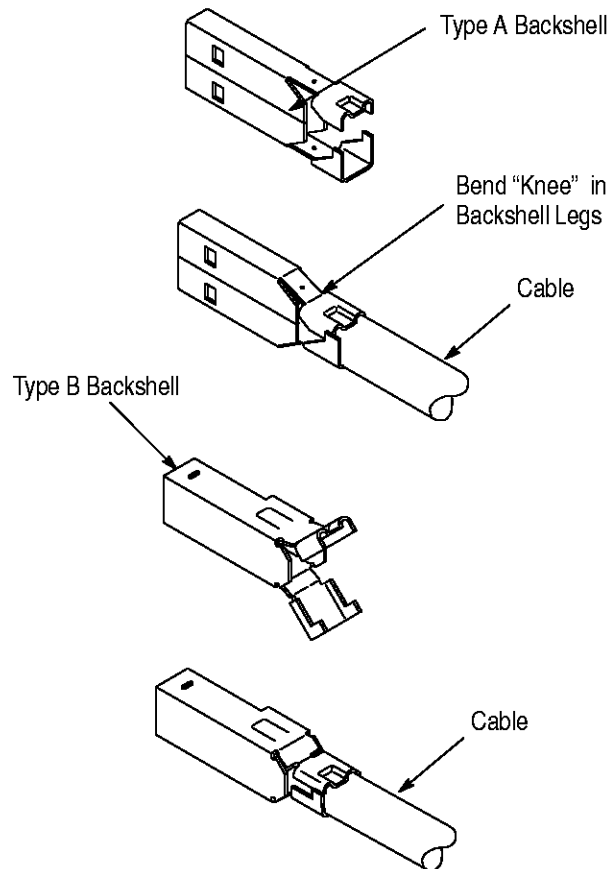

Figure 5
This instruction sheet covers the setup, operation, and maintenance of AMP\* Backshell Crimper Assembly 1214695-1. The crimper assembly is used in conjunction with Manual Arbor Frame Assembly 91085-2 or Manual Arbor Frame Assembly 58024-1 to crimp AMP Universal Serial Bus (USB) Type A and B backshells (Figure 5) onto cable with USB connectors.
4. Place backshell on the end of the cable and bend the legs of backshell around the cable. See Figure 5.
*It will be necessary to bend a "knee" in the legs of Type A backshells. Refer to Figure 5.*